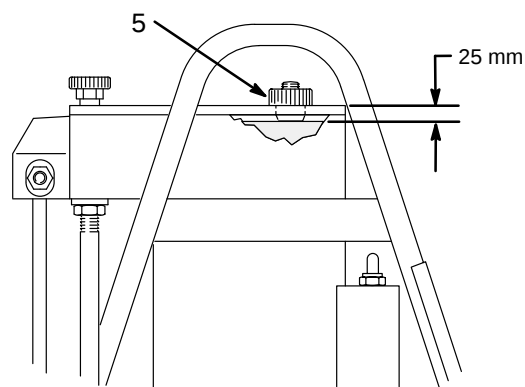

Fig. 11
See Fig. 11.
23. Lubricate the screws (25) and then install and torque them to 19–23 N.m .
24. Check the hydraulic oil level and add Graco-approved oil as necessary until the level is 25 mm from the top of the plate. See Fig. 11, page 14.